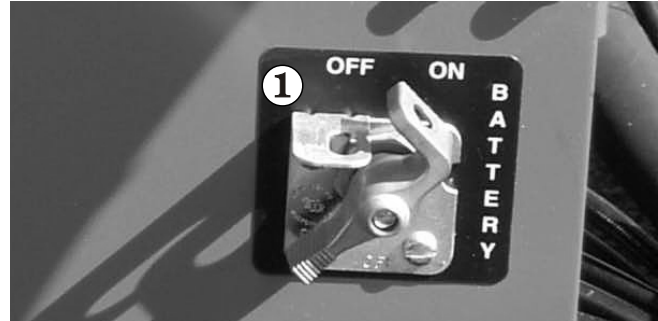

Figure 8.3
1. Set the **Battery** switch **1** (see Figure 8.3) to on.